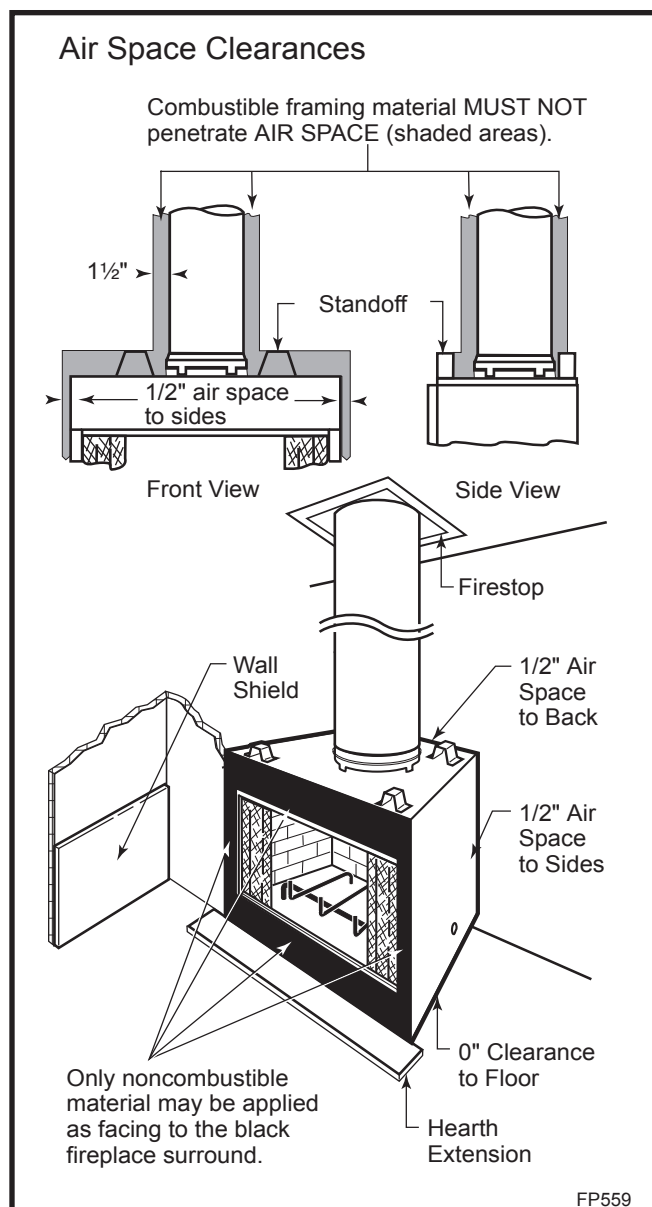

Fig. 20 Minimum clearances to combustibles.
**CAUTION:** All joints between the finished wall and the fireplace surround (top/sides) must be sealed with noncombustible material to prevent cold air leakage into the room. Only noncombustible material may be applied to the facing of the fireplace surround. (Black painted area) (Fig. 20)
The special wall shield design described in Figure 20 is an alternate method of adding protection to side walls and can be used in place of the SP40 with the same wall clearances specified for the SP40. Rt must = 1.85 minimum.